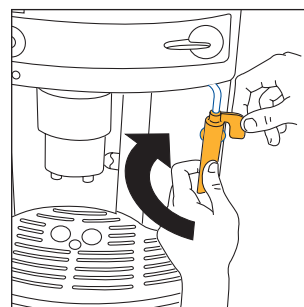

Fig. 25
- Turn the knob clockwise as far as it will go. With one hand, hold the cappuccino tube firm and with the other unscrew the cappuccino maker itself by rotating clockwise and extracting downwards (fig. 25).